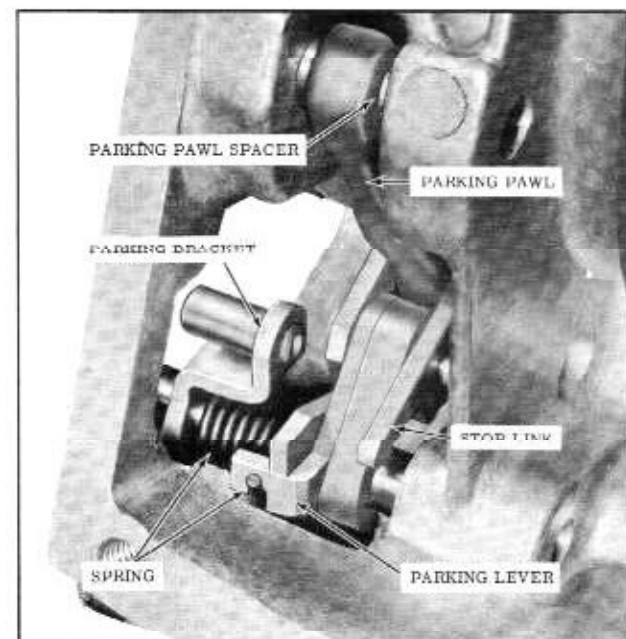
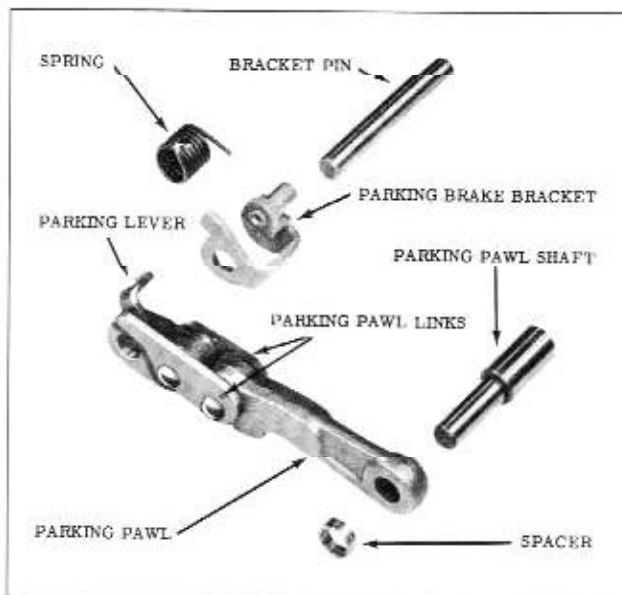

Figure 3-56 Spring and Lever Assembly
Fig. 3-57 Parking Pawl Assembly
1. While holding parking brake link stop against parking bracket pin, unhook spring from parking lever assembly. (Fig. 3-56 and Fig. 3-57)